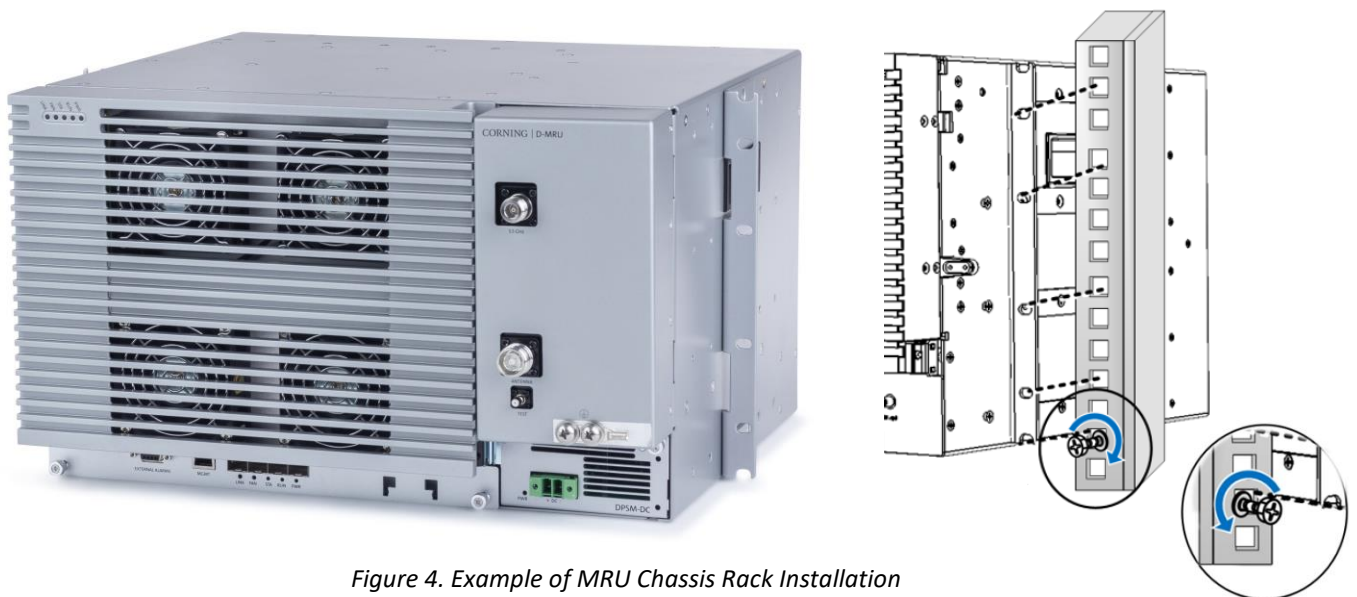

Figure 4. Example of MRU Chassis Rack Installation
3. Referring to Figure 4 secure the units' rack ears to the rack frame as follows: